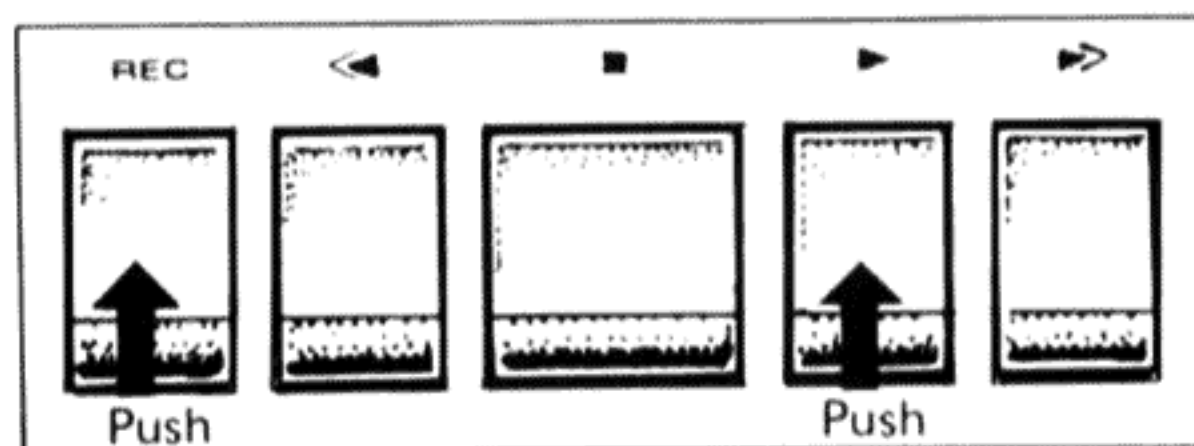

Fig. 44
6. Push down the REC and ► PLAY buttons at the same time (Fig. 44). Recording begins. For monitoring live recordings, we recommend the use of headphones rather than loudspeakers.